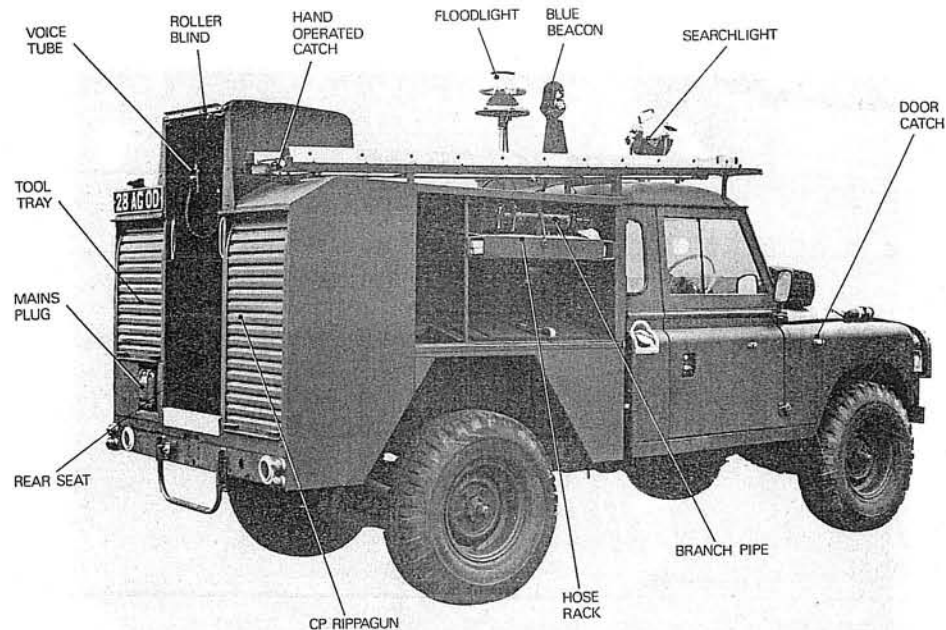

Fig.1. Rear view of truck
2. The main fire fighting equipment consists of a 100-gallon tank containing a light water or protein foam mixture, a single stage pump to pressurize the mixture and two 100 ft. hoses for distribution. Ancillary fire fighting equipment includes two portable fire extinguishers and two hand-held fire extinguishers. A rear view of the truck showing some of the major items of equipment is shown in fig.1.
GENERAL (fig.1)